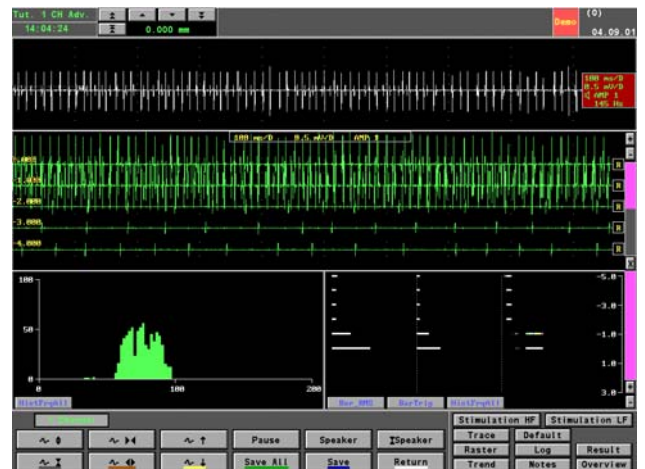

Figure 81 Ruler Scale situated on the right frame in the Overview Window
- Alter the distance to the target from -1.000 to 0.000mm, see Figure 81 below.